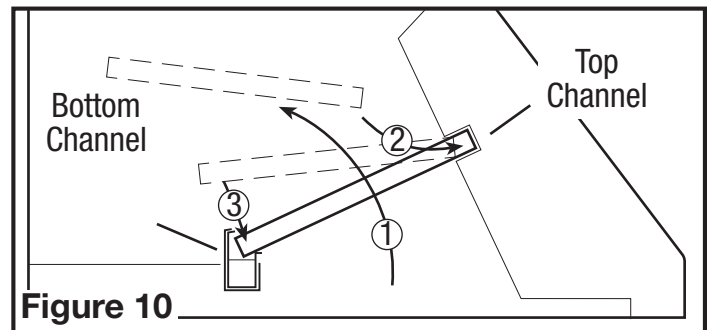

Figure 10
3. Install the baffle filters and any spacers included with the unit by inserting the top of the filter into the top channel of the hood, then slide the bottom of the filter into the bottom channel. The filters have a top and a bottom. The bottom of the filter will have small drain holes. These holes must be facing down towards the grease trough to be effective (Figure 10).